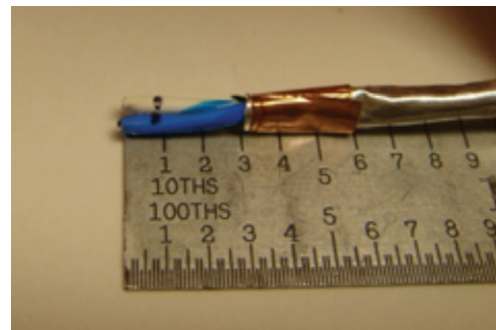

Figure 21: Marking a primary
14. Mark each primary at 0.07 inch from the end (Figure 21).